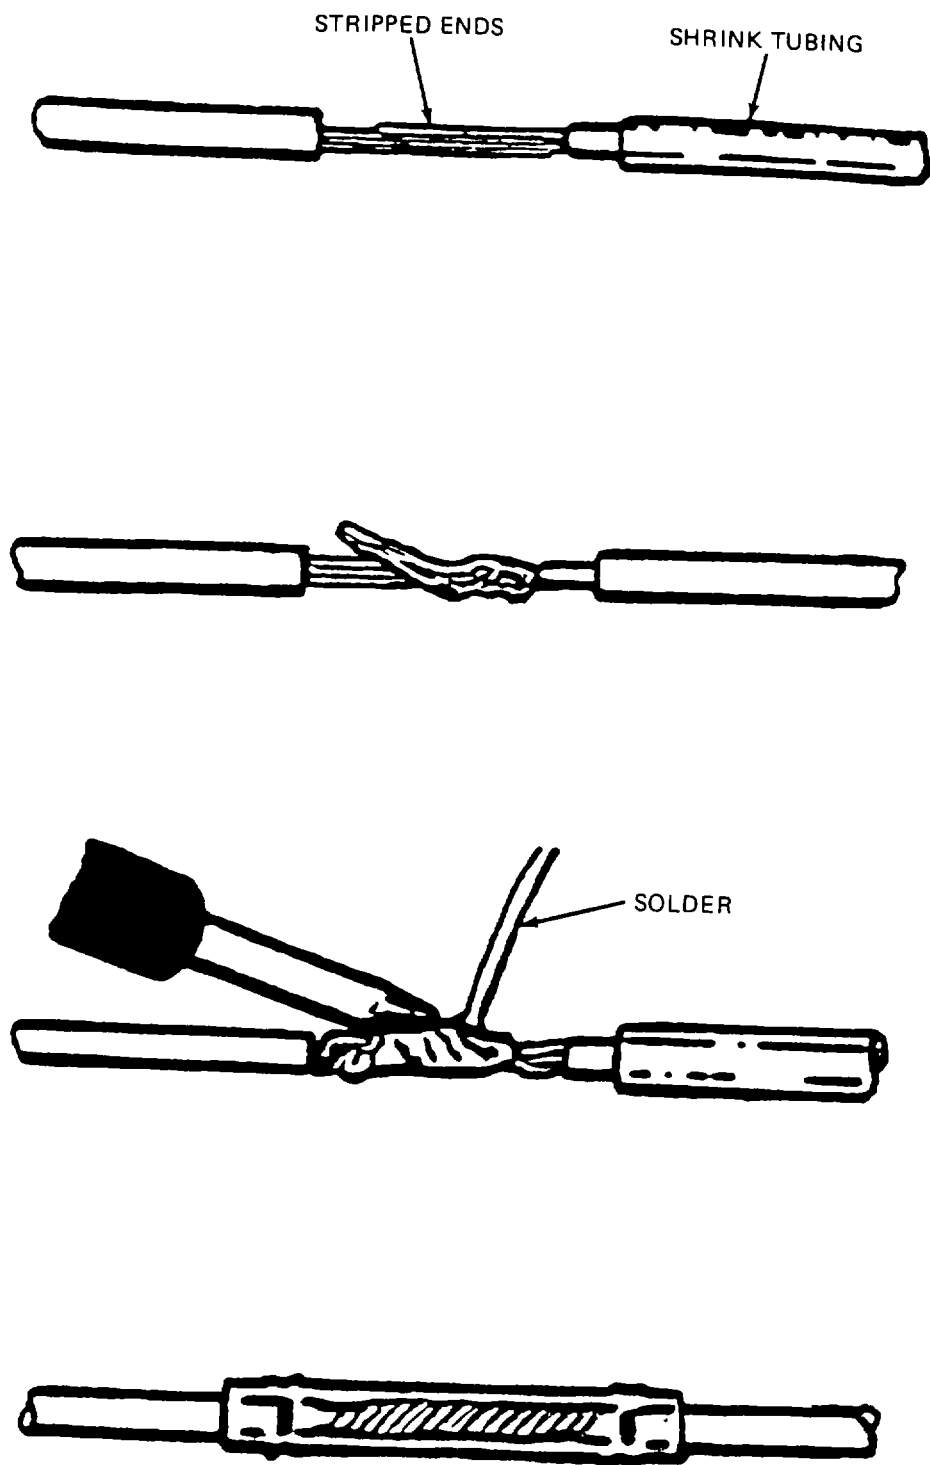

Figure 7-5. Solder Method to Repair Wires.
(a) Strip end of broken wires (Detail A, figure 7-5).
- (d) Twist the wire ends together (Detail B, figure 7-5).
- (e) Solder wires together using resin-core solder (Detail C, figure 7-5).
- (f) Slide sleeve or tubing over the soldered wires or tape to insulate the conductor (Detail D, figure 7-5).